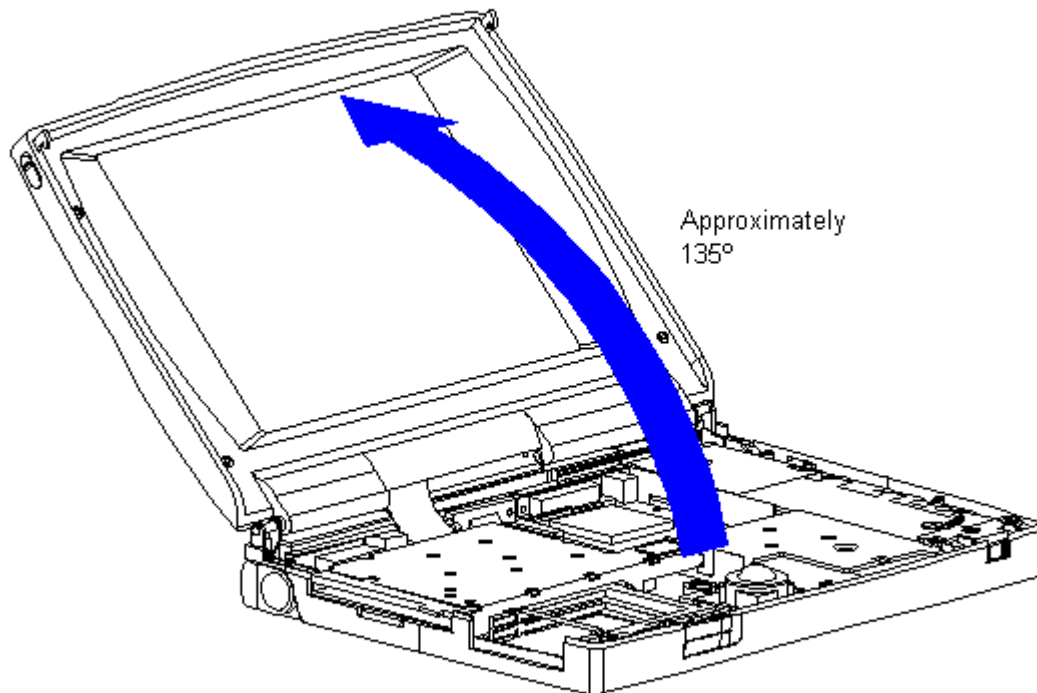

Figure 3-28. Opening the Display to a 135-degree Angle (All Models)
1. Open the display to its fully opened position of 135-degrees (Figure 3-28).